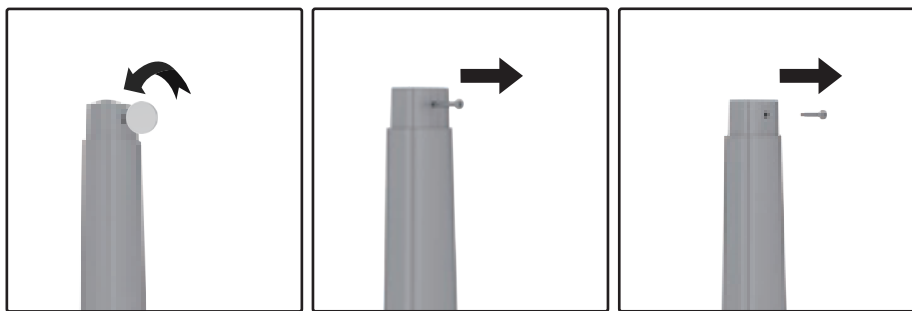

Figure 3-2a
Step 1: Use a coin or screwdriver to take out the bolts on the main assembly of the tank (see Figure 3-2a);